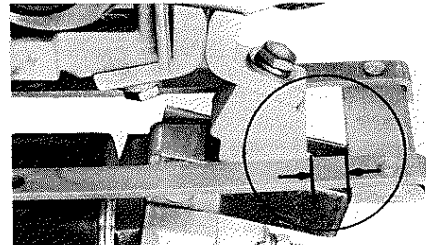

Figure 4
1. With all power removed, check that the mechanical interlock allows the contact arm (22) of either contactor to reach its limit of travel, either completely closed or completely open, without binding.
2. Hold the contact arm of the left contactor fully closed and push closed the contact arm of the right contactor until stopped by the mechanical interlock. Check that there is a gap of at least 1/32" but not more than 1/16" between the inside edge of the stop bracket (44) and the back surface of the auxiliary arm (13) (Fig. 4).